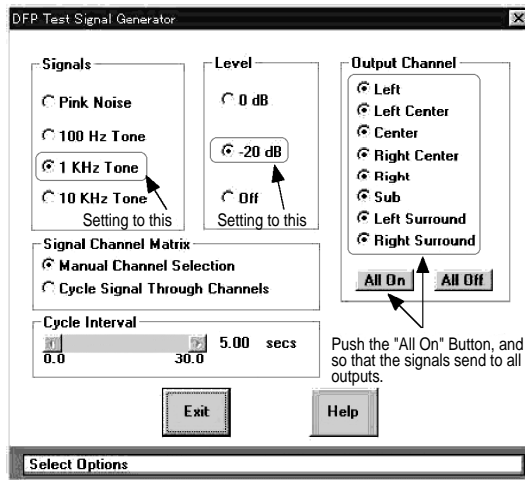
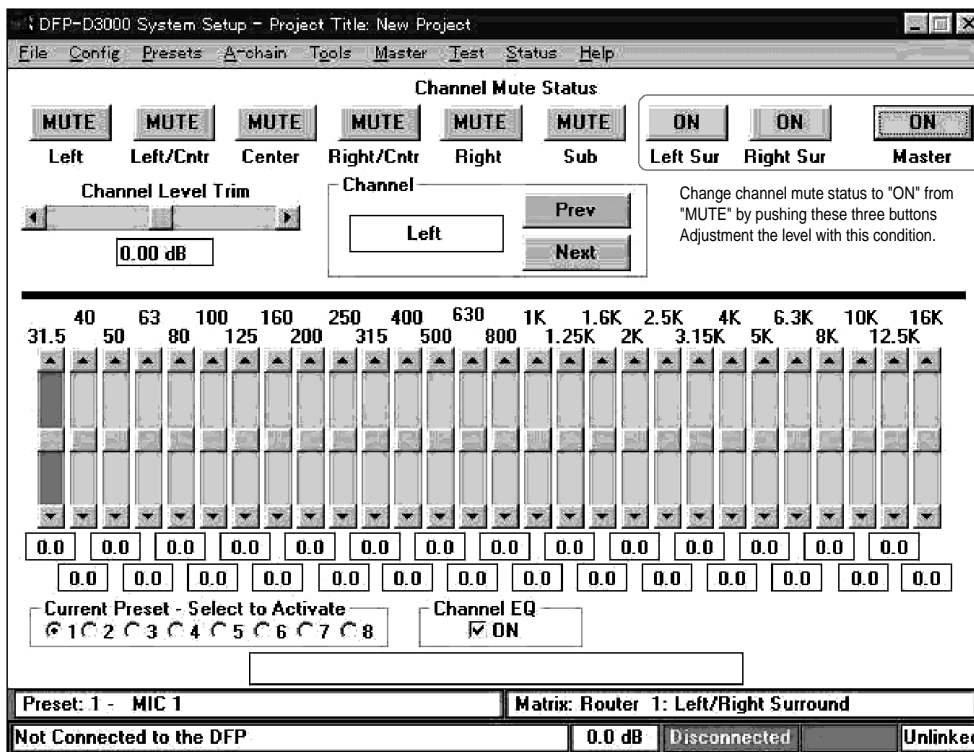

Fig. 4. DFP-D3000 Oscillator Setting in Surround EX Processor Level Adjustments
Fig. 6. Channel Screen Settings After Oscillator is Turned ON
7. Change the oscillator settings as follows at this screen. (Refer to Fig. 4.)
8. After setting the oscillator, select “EXIT” at the screen shown in Fig. 4 to exit the oscillator screen. At this time, the audio output and master output of each channel on the channel adjustment screen will be muted. As shown in Fig. 6, press the Surround channel and master output buttons, and set the outputs to “ON”.